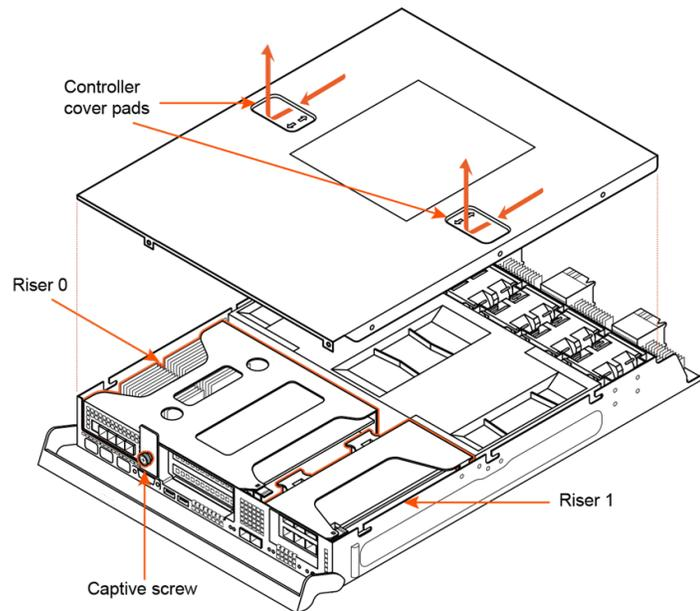

Figure 13-11. Removing the Controller Cover
2. Press the controller cover pads, slide the cover toward the retaining bar about 1/2 inch, and then lift the cover off. See Figure 13-11.